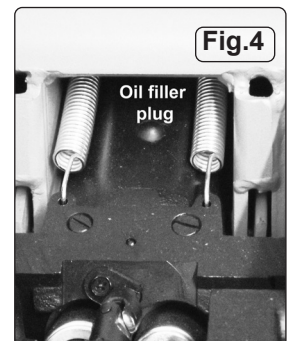

Fig.4
- 7.3.2. With the jack in the level position, remove the oil filler plug (fig.4).